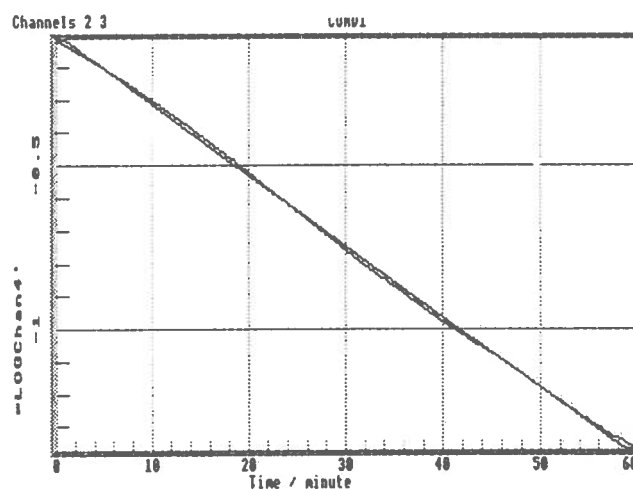

Fig.8 . . . with best straight line
- 6a. plot best-fit straight line (Fig.8). Calculate rate constant  $k$  for the slope or
The gradient of the  $\text{LOG}(V_{\infty} - V_t)$  vs. time graph (Fig.8) is directly related to the rate constant  $k$  by:
The straight line graph is assigned to another channel if one is available. Fig.8 shows the original  $\text{LOG}(V_{\infty} - V_t)$  data displayed with the best straight line. There isn't much daylight between them!